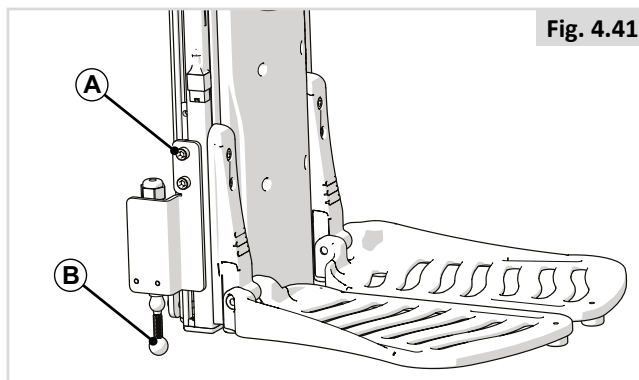

Fig. 4.41
In case of optional 'Footplate to the floor' function (Fig. 4.41), a switch is mounted. The switch (A) needs to be adjusted in height after adjusting the lower leg length. Make sure the ball of the switch is completely under the lowest edge of the footrest (B).